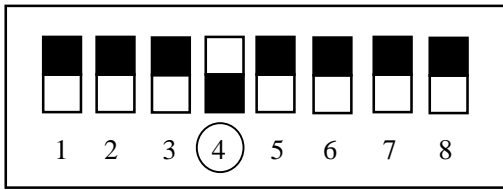

Figure 3.2.5 DIP Switches
① Before powering on the subsystem, set DIP switch No.4 as shown in Figure 3.2.5.